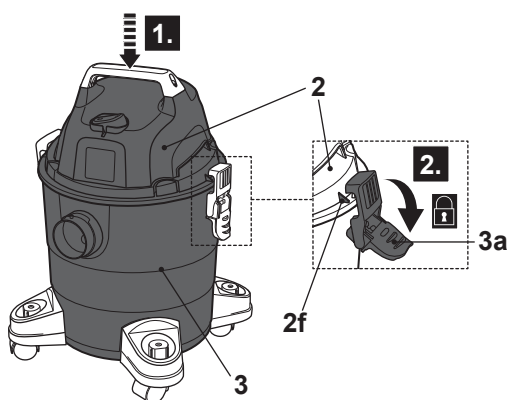

Fig. 10
- > Place the motor unit (2) with foam sleeve (13) onto the tank (3) and secure it with the clasps (3a) and clasps grooves (2f) (Fig. 10). Ensure the motor unit sits properly on the tank and the connection is properly sealed.